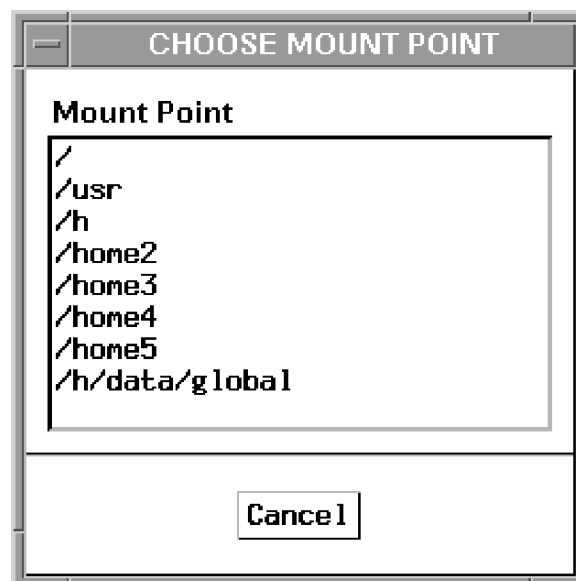

Figure 10. CHOOSE MOUNT POINT Window
- (b) Toggle on the `Popup` checkbox to the left of the MOUNT POINT field to open the CHOOSE MOUNT POINT window (Figure 10). Click on a mount point from the scroll list to select it. The MOUNT FILE SYSTEM window reappears with the new mount point in the FILE SYSTEM field.
(b) Toggle on the Popup checkbox to the left of the MOUNT POINT field to open the CHOOSE MOUNT POINT window (Figure 10). Click on a mount point from the scroll list to select it. The MOUNT FILE SYSTEM window reappears with the new mount point in the FILE SYSTEM field.